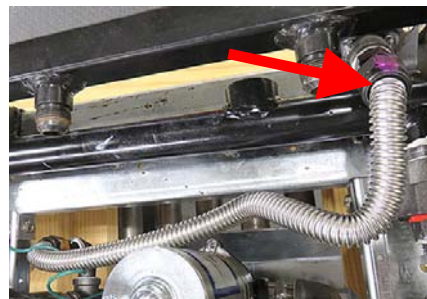

Figure 58
58. Position the fresh oil fill assembly 1085785 to the far left of the fryer, as viewed from the rear. Position the assembly between the oil manifold and the gas manifold. Route the flexline around the ATO pump and attach the fresh flexline from the assembly to the right of the ATO pump to the fresh oil fill assembly (see Figures 58 and 59).